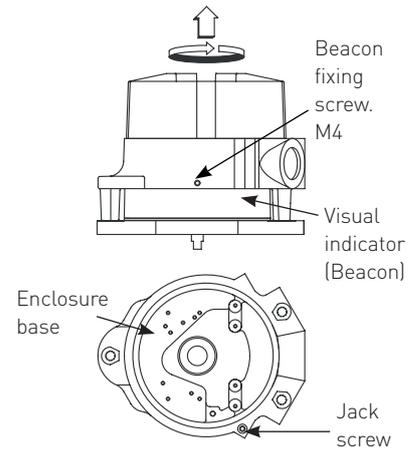
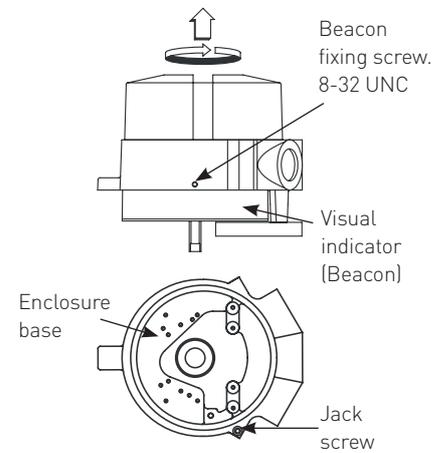

Figure 1 - Standard enclosure
Figure 2 - Alternative enclosure
- 2.4 Unscrew the cover (Fig. 1) and keep in a safe place. Ensure that the Jack screw [M4 socket head cap screw] remains in the housing (Fig. 2).
Loosen the beacon fixing screw, see Fig. 1, rotate beacon window (outer beacon) to indicate appropriate open or closed text as corresponding to actuator position.